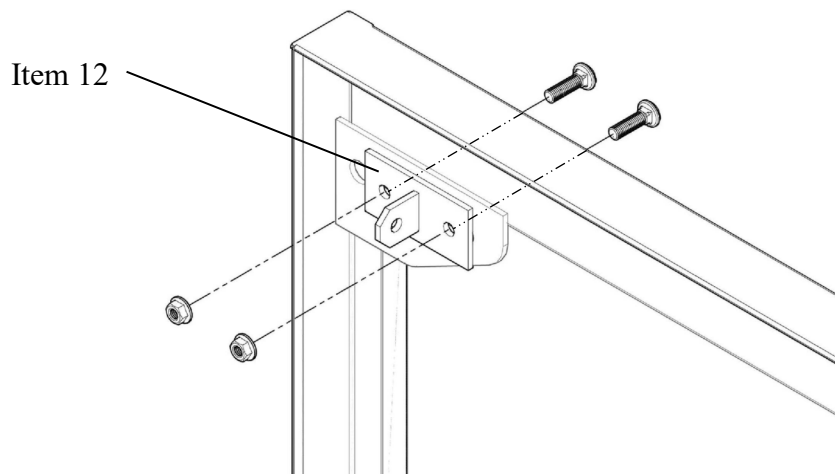

Figure 3
6. Attach the backboard brace brackets (item 12) to the top corners of the backboard as shown in figure 3. Use the 3/8-16 x 1" carriage bolts with whizlock nuts for this assembly.